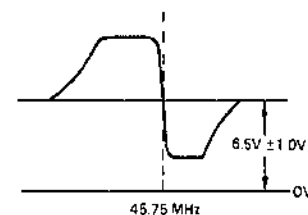

Fig. 72
- (1) Connect the oscilloscope to the IF terminal of the IF pack and adjust the output of the sweep generator so that the waveform of this terminal is 1 Vp-p.
- (2) Connect the oscilloscope to IC801 pin 16 inside the IF pack, set to DC range and adjust so that the output voltage at 45.75 MHz is 6.5V. (Fig. 72)